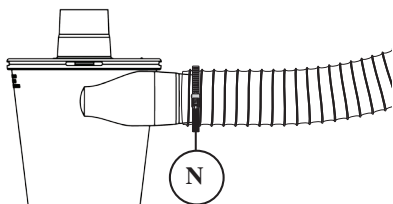
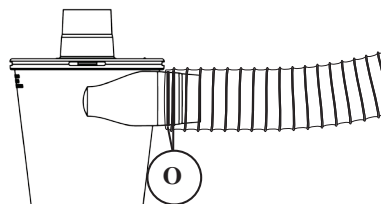

FIG. 9b
FIG. 9c
Note: If your vacuum hose is not tight on the inlet or it keeps pulling off, use the Clamp Band (N) and/or the two O-Rings (O) [FIG. 9b] [FIG. 9c].